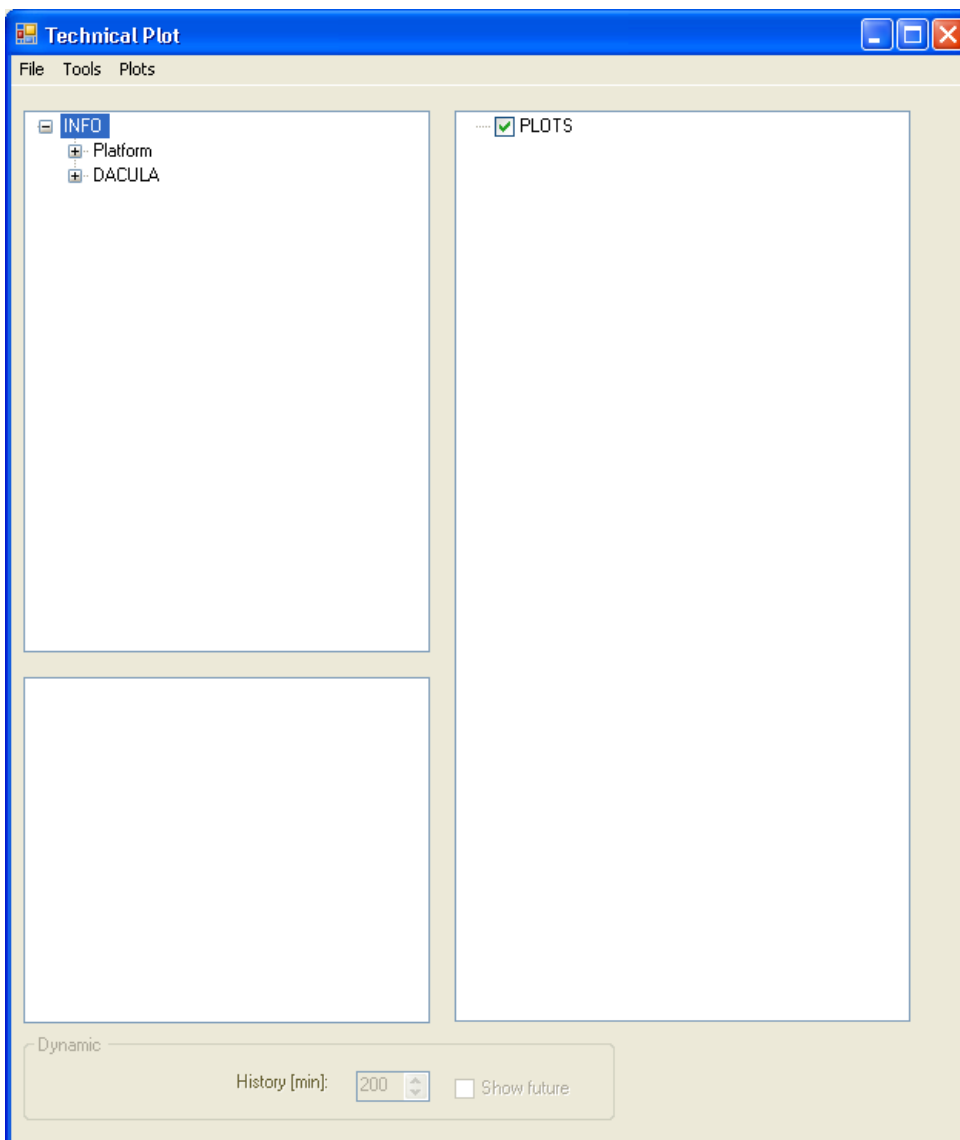

Figure 11.2 The Technical Plots window in Simson Fennikel (without plots)
There are several methods to create technical plots in Simson Fennikel, but an essential part in this concept is the *Technical Plot* window (TP window), see Figure 11.2. It is accessed by clicking *Simson* → *Technical Plots*.
- Manipulation of plots to the right. This is empty in the example shown in Figure 11.2 but as soon as certain types of plots are created, these will be added here. The population of plots to manipulate will be described in the next sections and the manipulation of these plots is further described in section 11.6 (interactive generation).